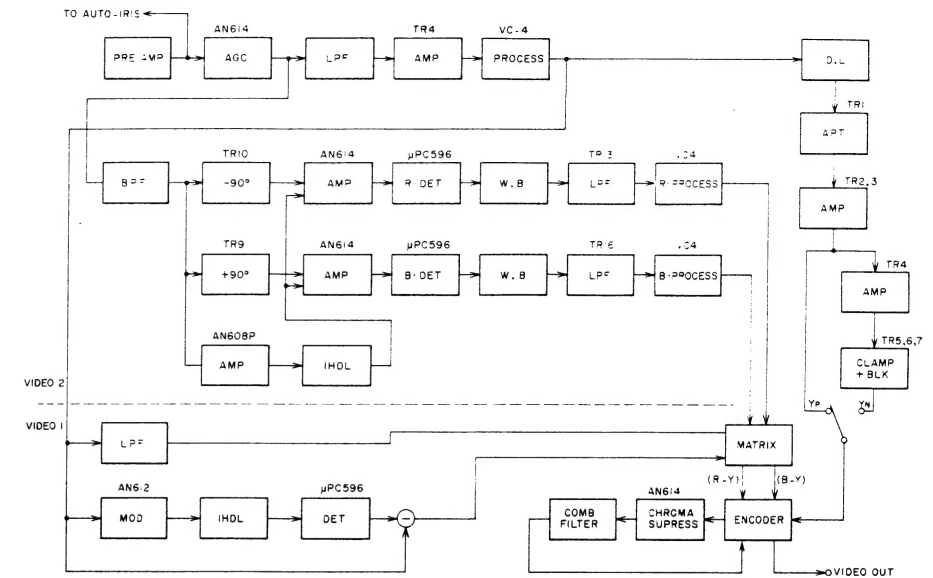

Fig. 18
The video amp is made up of two P.C Boards: Video (1) and Video (2). Its block diagram is shown in Fig. 18. Output from the pre amp is clamped by TR1 and then supplied to pin ① to IC1 (AN614).
With the VC-X1, the white balance circuit is preceded by the detection circuit for 3.8 MHz-modulated waves (R and B) produced in the color separation circuit. (See Fig. 18). Fig. 22 shows the white balance circuit connections.